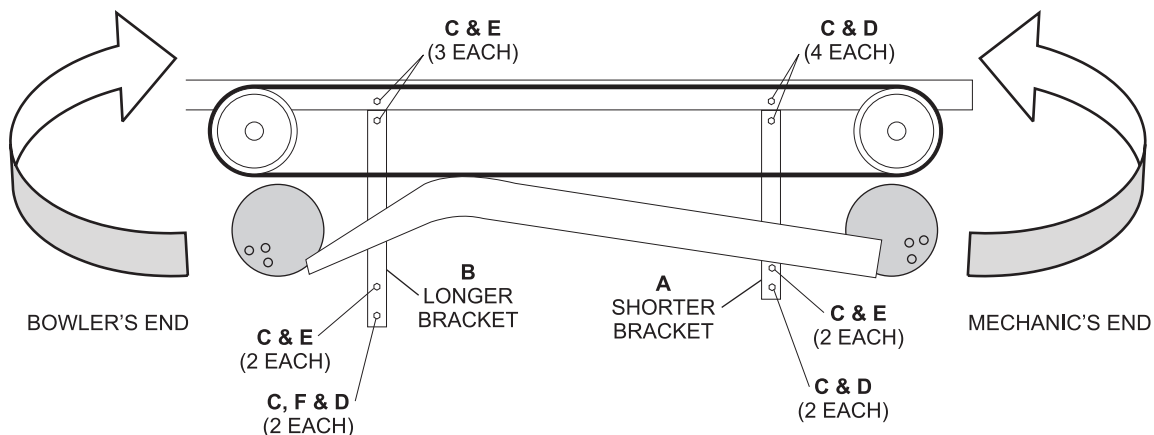

Figure 1
Packaging - Refer to *Figure 1* for Index Locations
1. Place a regulation size ball between the rear pulley assembly (mechanics end of the pinsetter) and ball return track for support. Refer to *Figure 1*.
3. Move the regulation size bowling ball from the rear pulley assembly and place it between the front pulley assembly (bowler's end of the pinsetter) and the ball return track for support. Refer to *Figure 1*.